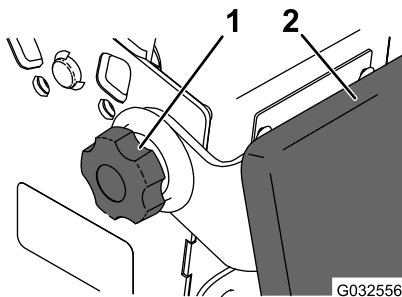

Figure 30
2. Loosen the twist knobs on each side of the machine (Figure 30).